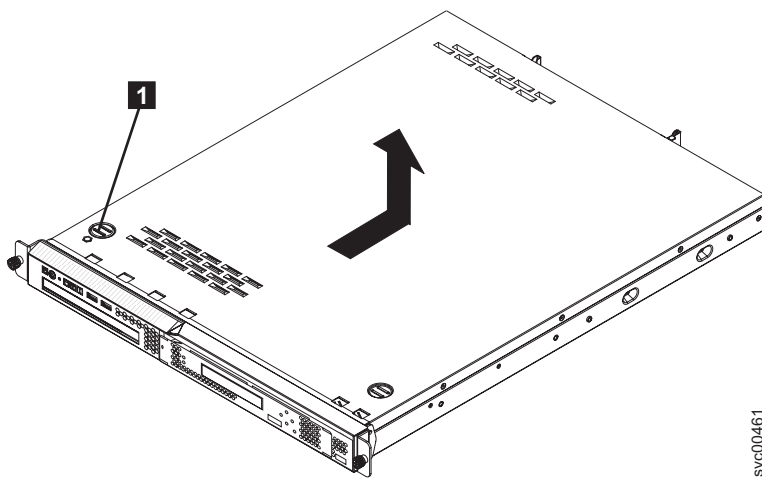

Figure 69. Removing the SAN Volume Controller 2145-8A4 cover
3. Press the cover-release button **1**, which is shown in Figure 69.